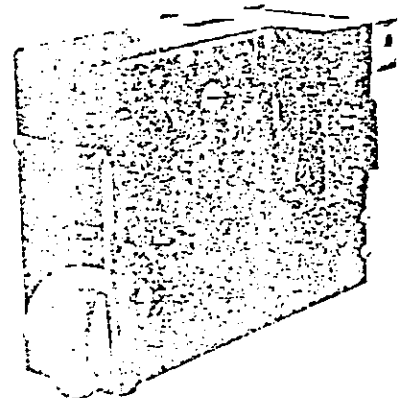

Fig. 5 RS-15 A and RS-25 A Dual Magnetic Overload Assembly.
Details of the overload are shown in the cross sectional view of Figure 5. The moving armature, item 28, is coupled to the time Delay oil dashpot mechanism by means of the instantaneous spring, item 29. For values of overcurrent below the instantaneous trip setting, the armature is pulled inward at the top and forces the movable cylinder of the dashpot mechanism upward. The time delay is inversely dependent on the amount of current flowing through the series coil—being long for low values of current and shorter for higher values of current. If the current exceeds the instantaneous setting of the overcurrent device, the armature bends the instantaneous spring and moves inward